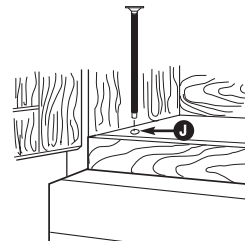

Figure 31
3. Then insert a bolt down through each hole in the upper cabinet bottom. See Figure 31.